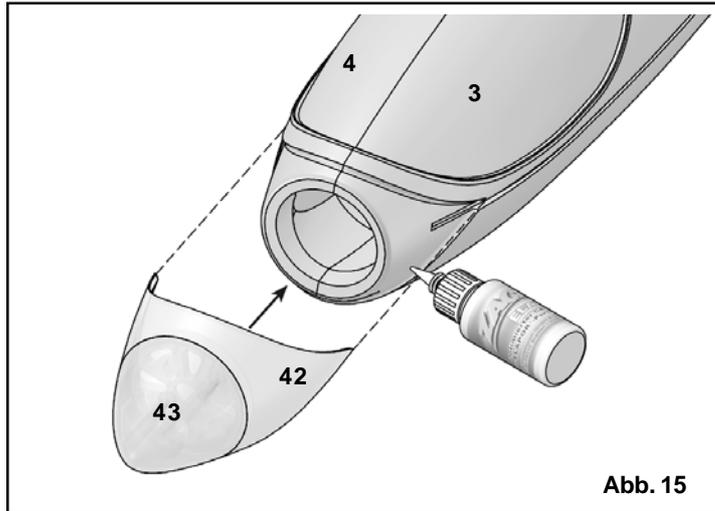

Abb. 15
3.7.1 Completing the glider version, Fig. 15